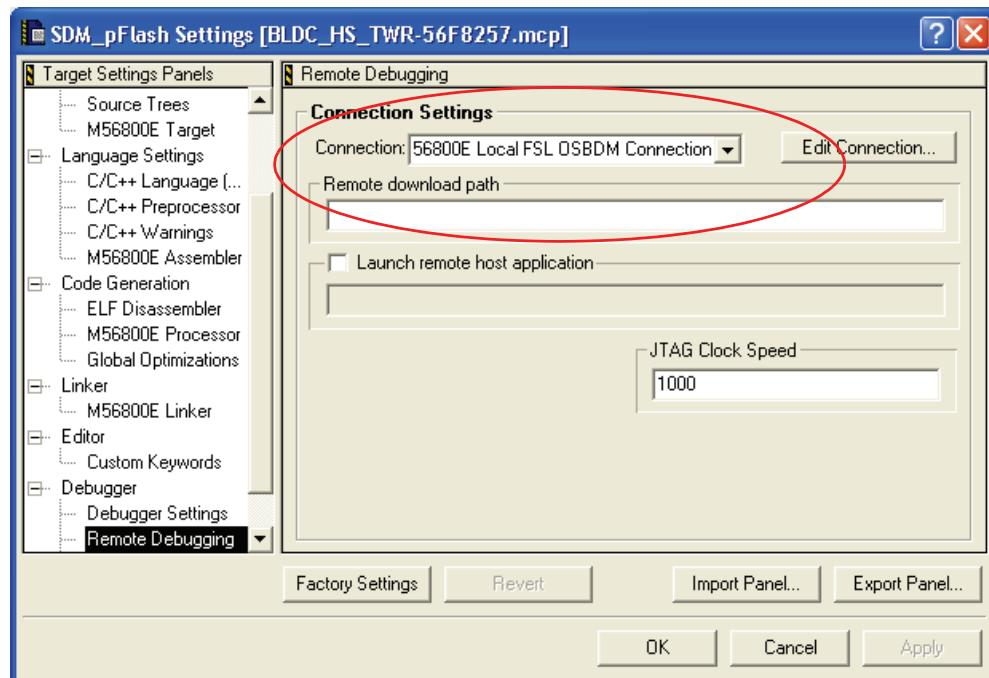

Figure 1-9 CodeWarrior Connection Setting
1. Run CodeWarrior for DSC56800E v8.3 and open the project with the application code. Choose the Connection Settings in Project/SDM_pFlash Settings (Alt + F7) in Remote debugging tab (see Figure 1-9 CodeWarrior Connection Setting)